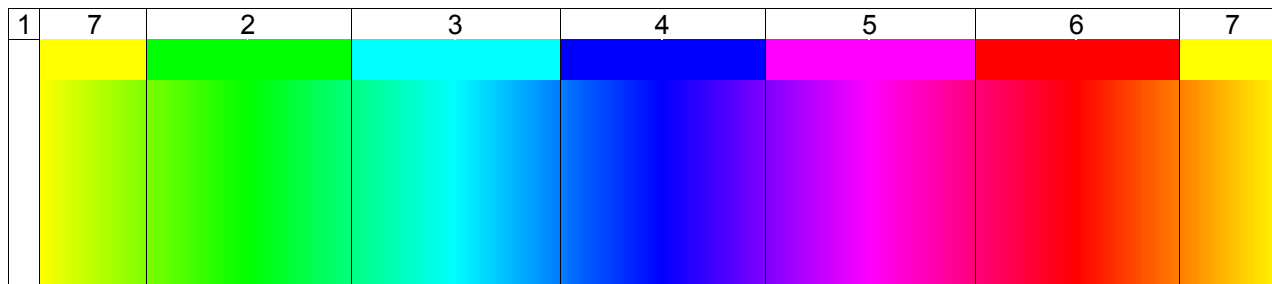

Figure 4. Color Spectrum
- See Figure 4. Seven preset color zones are available. Each having a number of shades: